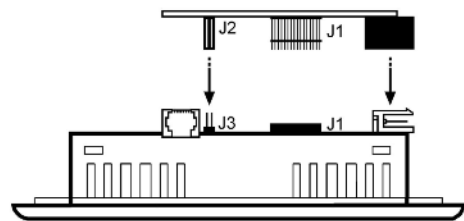

Figure 3. Installing the Module
6. Install the module by placing the module's connectors onto the controller card as shown in Figure 3.